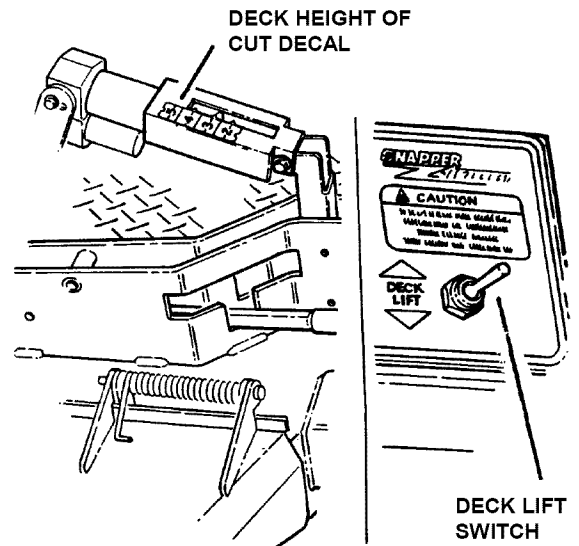

FIGURE 2.10
1. Adjust cutting height as desired to any position, using deck lift switch. When in desired height of cut, release switch. See Figure 2.10. Observe the height of cut decal located on the upper right top side of the deck to place deck at the correct height of cut. See Figure 2.10.